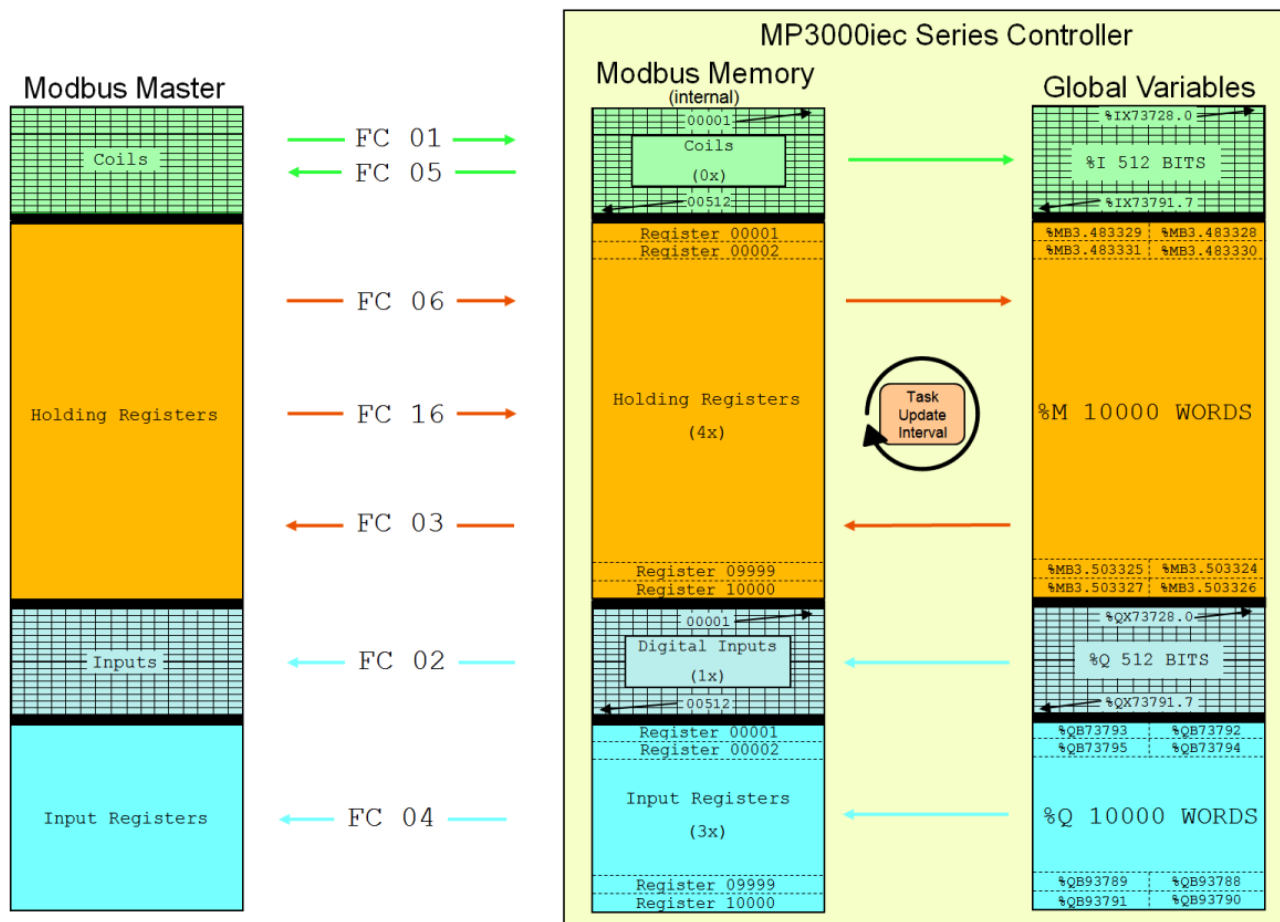

FIGURE 4: MEMORY MAP OF THE MP3000IEC SERIES CONTROLLER AS A SERVER.
Step 4: Figure 4 is an image of the MP3000iec series controller memory map when it is configured as a Modbus server in MotionWorks IEC.